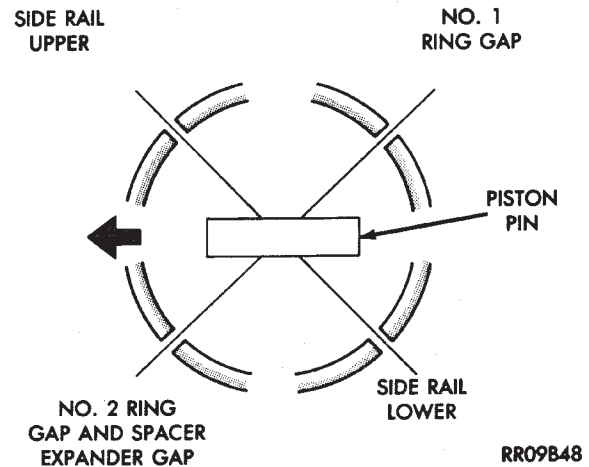

Fig. 13 Piston Ring End Gap Position
(5) Position piston ring end gaps as shown in (Fig. 13).
(6) Position oil ring expander gap at least 45° from the side rail gaps but **not** on the piston pin center or on the thrust direction.